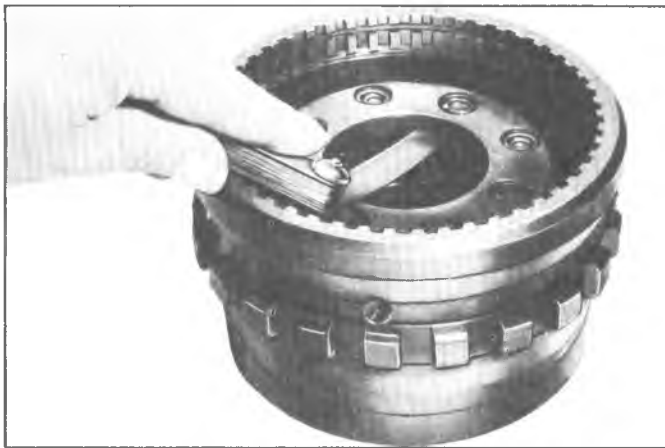

Fig. 106T--Checking Output Carrier Pinion End Play
11. Check pinion end play. Pinion end play should be .009"-.024" (fig. 106T).